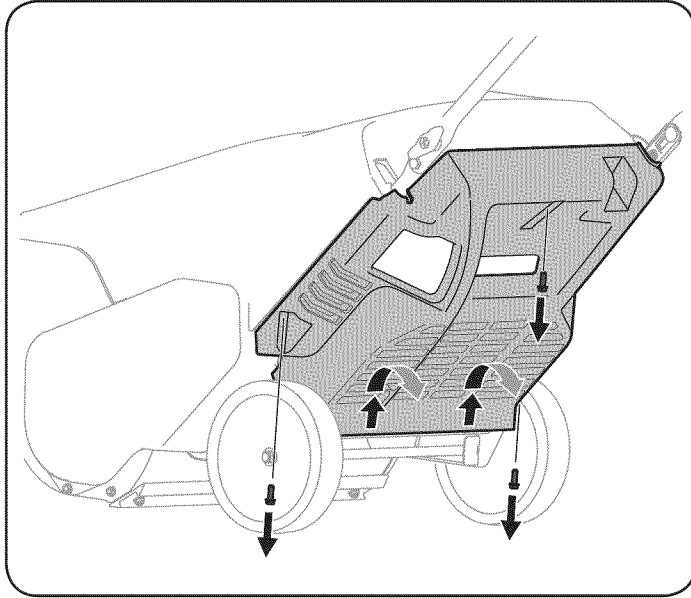

Figure 16
2. Remove the three screws that secure the lower panel. Remove the lower panel by lifting up on the panel to free the tabs at the bottom of the panel from the tab slots and then pull back. See Figure 16.